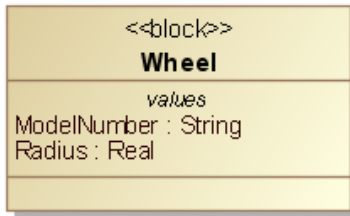

Figure 1.2a Block
- Blocks represent a generic object, like the Wheel in Figure 1.2a. A block may have value properties which describe it, like model number or radius, but these properties typically do not contain specific values.